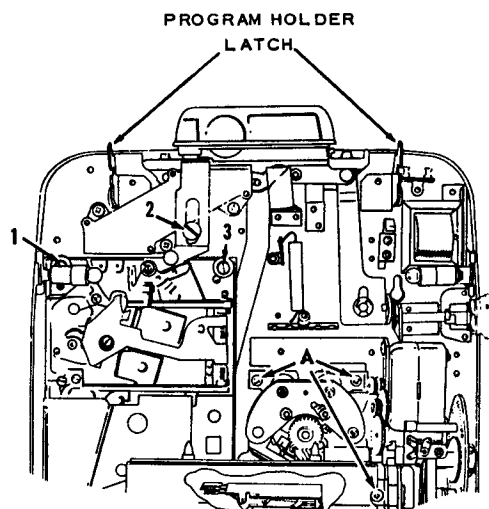

Figure 2.
- C. Unscrew 1, 2 and 3 (*Figure 2*).